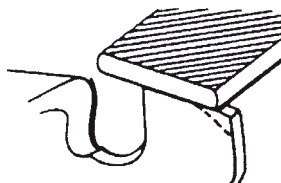

Fig. 45
- 4) Round off front corner to maintain original shape of depth gauge after using depth gauge tool. Always follow the recommended depth gauge setting found in the maintenance or operator manual for your saw. (Fig. 45)